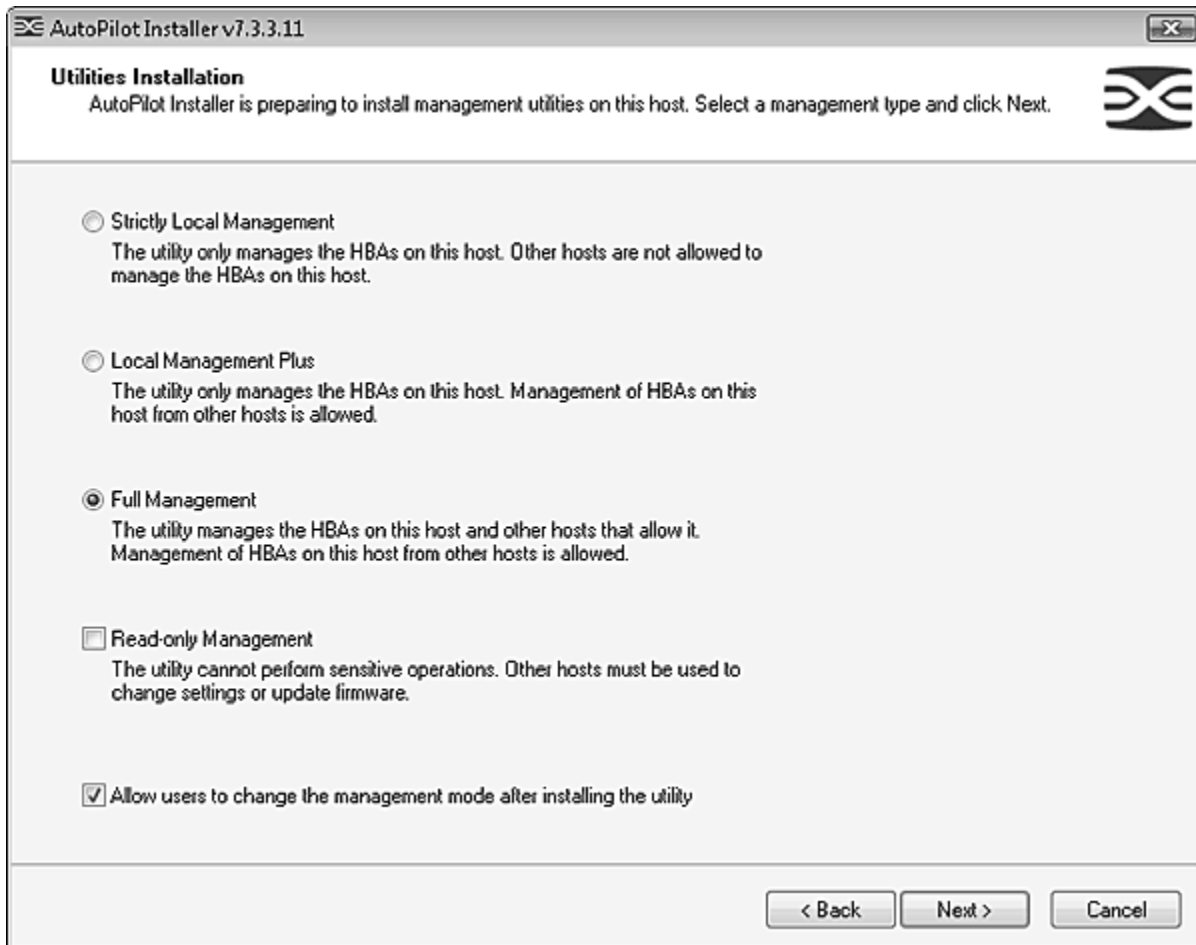

Figure 1: Utilities Installation Management Mode Setup
4. If the Utilities Installation page appears (as seen in Figure 1), select how adapters (local and remote) are managed by the HBAnyware utility.